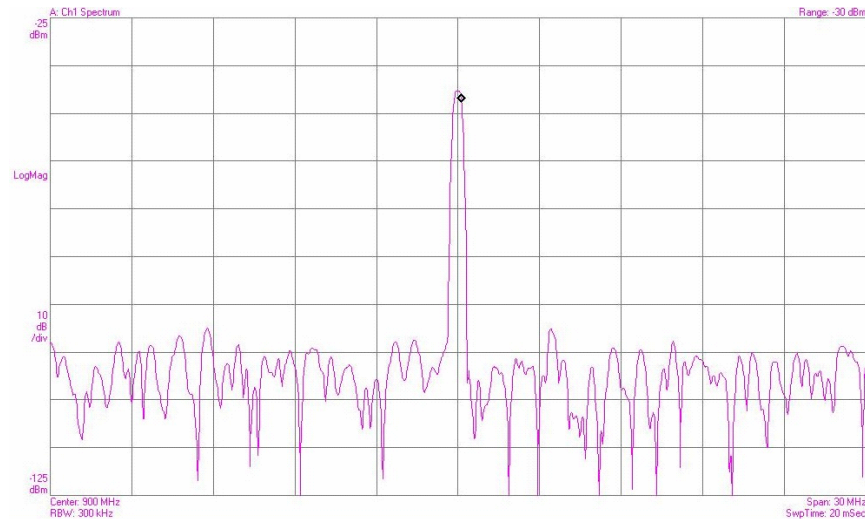

Figure 1-11: Spectrum Analyzer Output Signal of SR5500 at 900 MHz
3. The output signal should be about **-40 dBm**, as in the spectrum analyzer display shown in Figure 1-11.